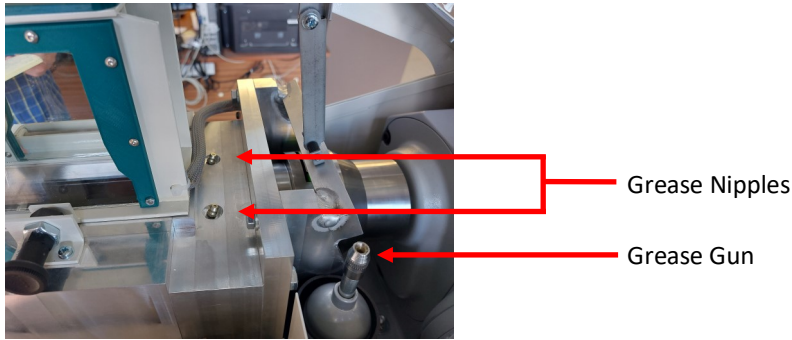

Figure 23
- Remove the grease gun from its housing and place the nozzle end onto one of the 2 grease nipples on the rear of the cutter box shown in figure 23.